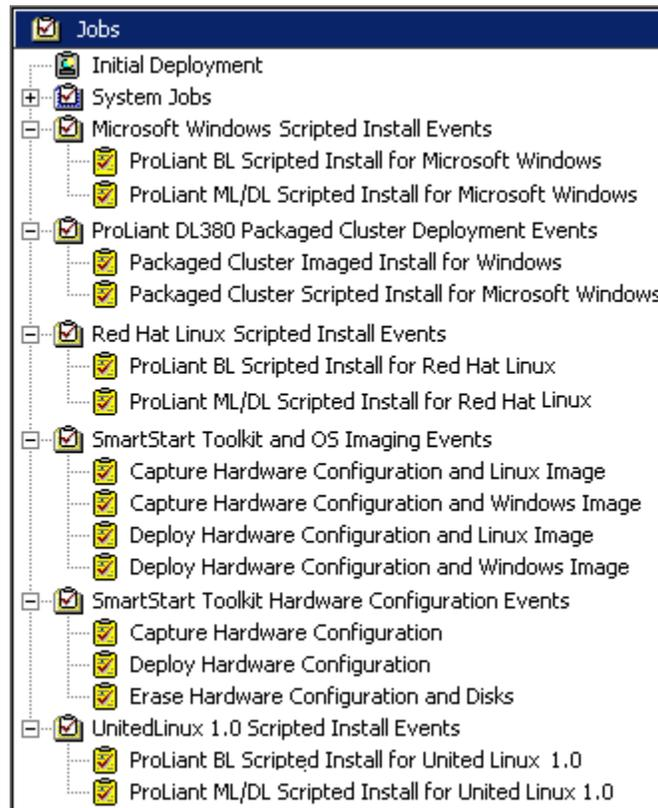
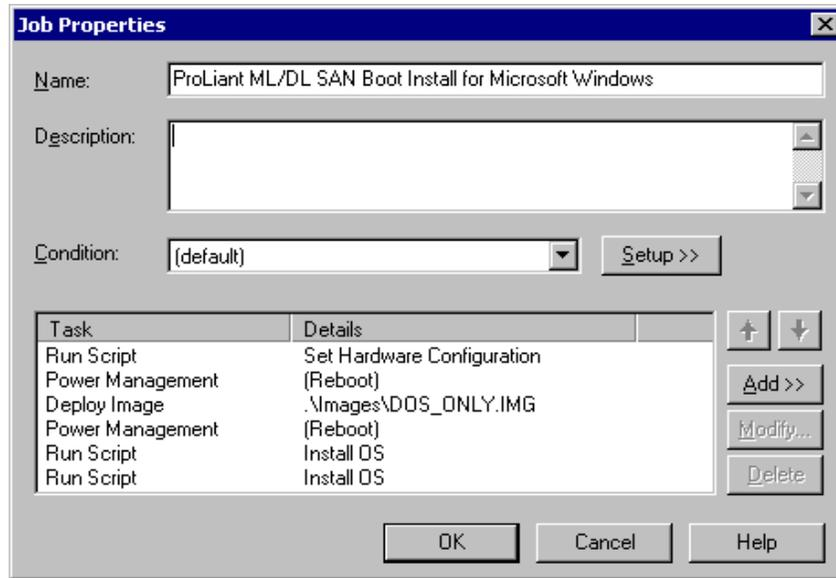

Figure 13: Deployment Server Console Jobs pane
Figure 18: Windows scripted install job, modified for Boot from SAN deployment
- f. Enter a descriptive name for the job. Figure 13 on page 19 shows a completed Deployment Server Console Jobs pane.
9. Click the modified job, as shown in Figure 13 on page 19 for task verification. Figure 18 on page 24 shows the Job Properties dialog box for the modified job.